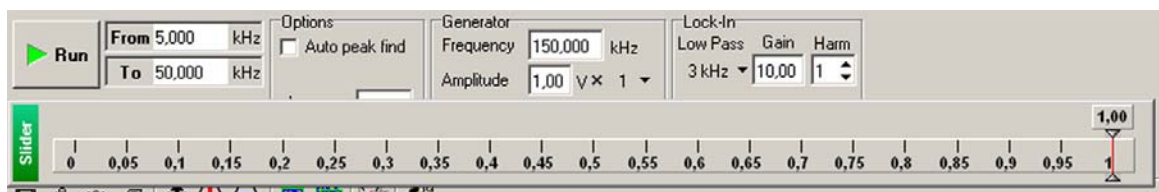

Fig. 3-11
- b. Double-click in **Amplitude** text box and, using the slider that appears, (Fig. 3-11) increase the value of **Amplitude** to its maximum.